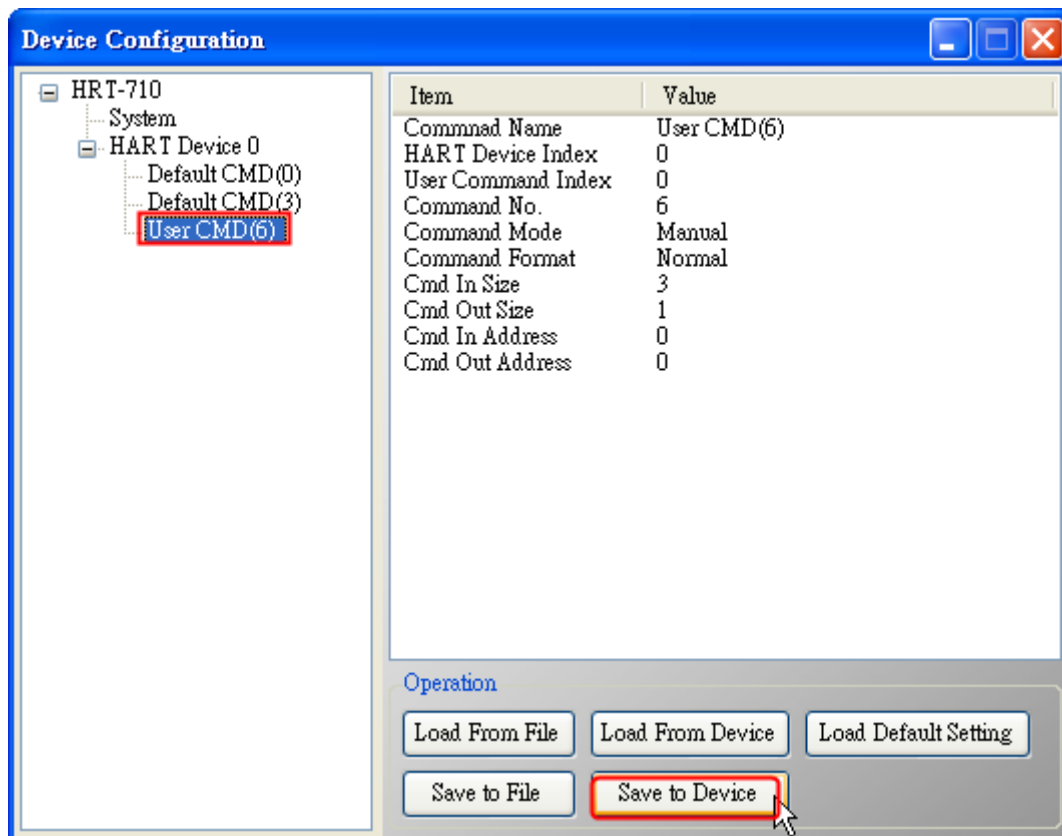

Figure 12-2 “Save to Device”
(4) Click “Save to Device” button. (Figure 12-2)